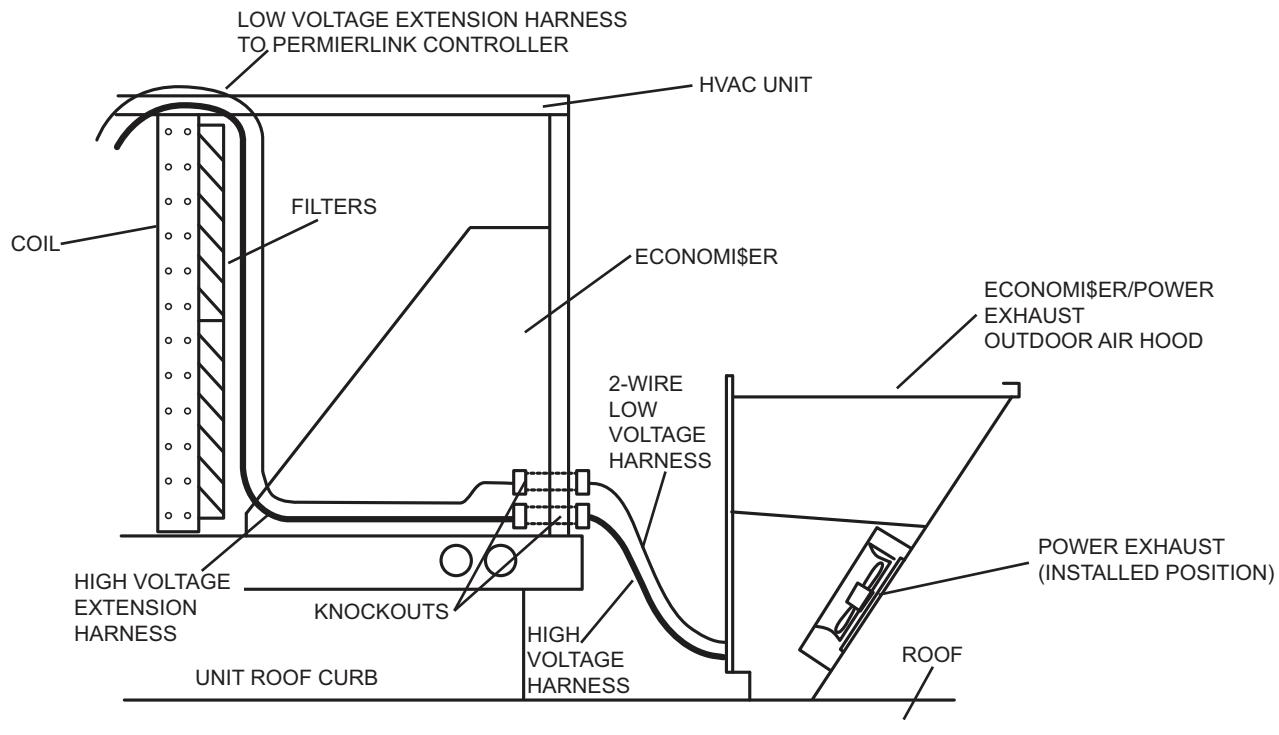

Fig. 9 — Power Exhaust Harness Installation with EconoMi\$er2 and PremierLink Controls
3. From the rear of the EconoMi\$er2 accessory, connect the low voltage extension harness plug to the two-wire harness from the power exhaust. (See Fig. 9.)
4. Route the other end of the low voltage extension harness to the PremierLink controller. (See Fig. 9.)
7. From the rear of the EconoMi\$er2 accessory, connect the long high voltage extension harness plug to the power exhaust harness. (See Fig. 9.)